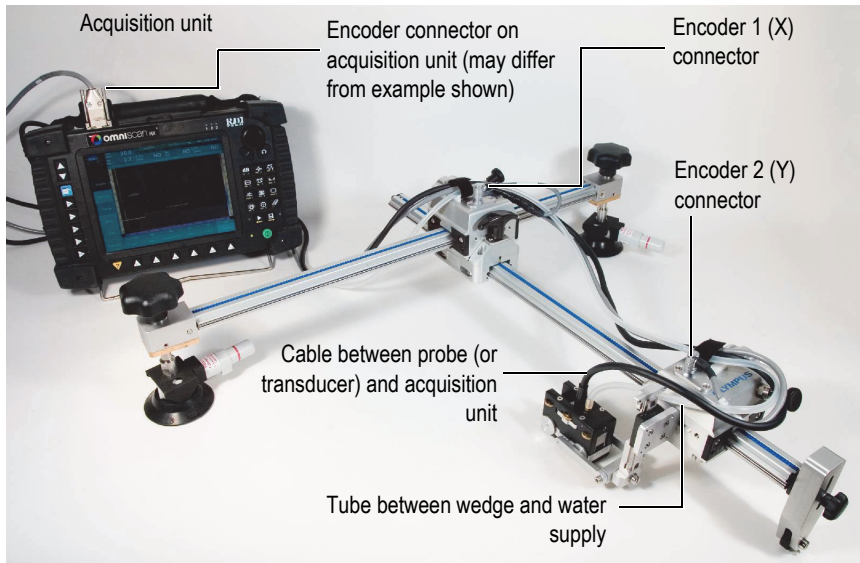

Figure 2-43 Scanner setup
2. Connect the water tube between the wedge and the water-supply unit (see Figure 2-43 on page 56).
6. Conveniently arrange your connections: a suggested arrangement—using Velcro and cable ties—is shown in Figure 2-43 on page 56.